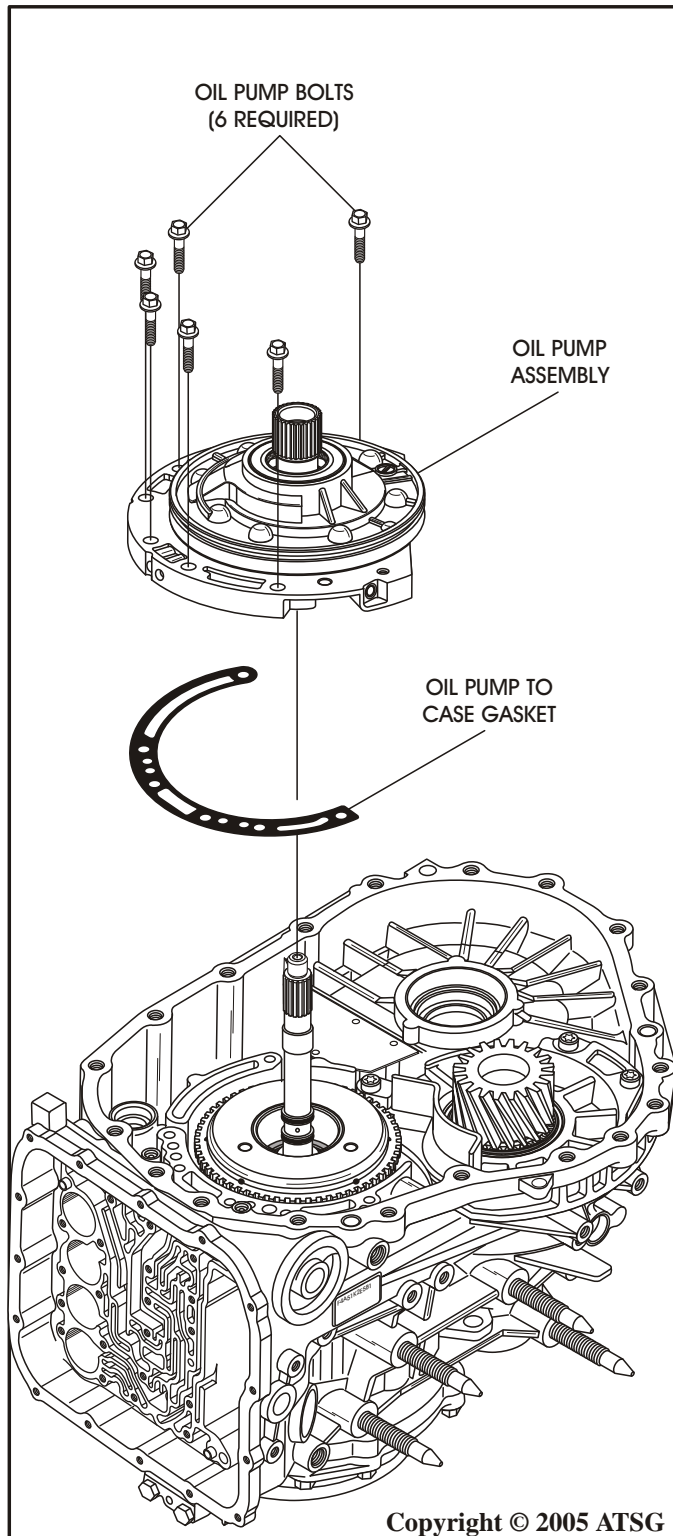

Figure 200
96. Install the oil pump gasket on transaxle case, as shown in Figure 200.
97. Install the pre-assembled oil pump assembly, as shown in Figure 200.
98. Install and torque the 6 oil pump to case bolts to 23 N·m (17 ft.lb.) (See Figure 200).